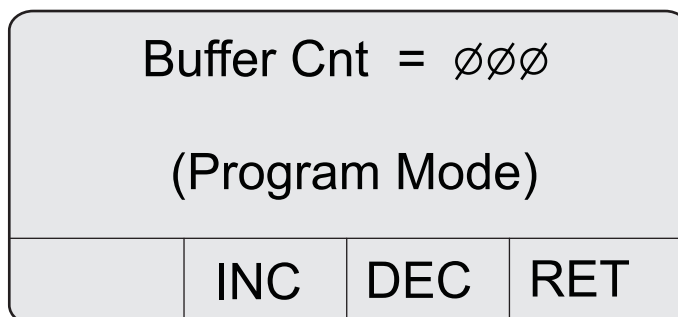

Figure 12 Buffer count screen
2. Press **2 (NXT)** to display the Buffer Count screen (refer to Figure 12).